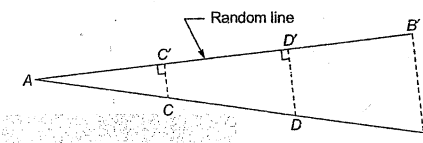

Fig. 3.12 Random line method of ranging
- In Fig. 3.12, let AB be the survey line which is passing through a thick forest. Range out a random line AB' roughly along the direction of AB such that line AB' is clear of the forest and point B is visible from B' . Draw a perpendicular $B'B$ at B' on line AB' . Measure the distance BB' . Calculate the length of AB as,